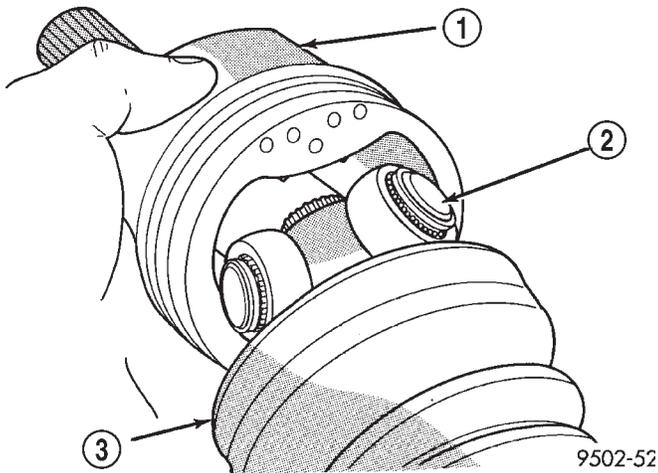

Fig. 26 Installing Tripod Housing on Spider Assembly
(4) Distribute 1/2 the amount of grease provided in the seal boot service package (DO NOT USE ANY OTHER TYPE OF GREASE) into tripod housing. Put the remaining amount into the sealing boot.
(5) Align tripod housing with spider assembly and then slide tripod housing over spider assembly and interconnecting shaft (Fig. 26).
(6) Install inner tripod joint seal boot to interconnecting shaft clamp evenly on sealing boot.